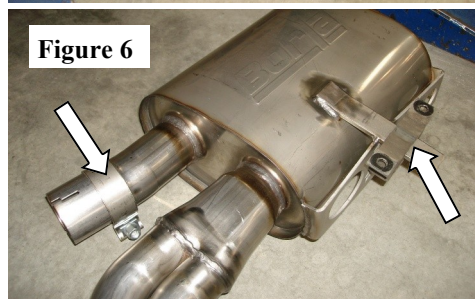

Figure 6
2. Starting with RH Muffler Assembly, slide OE muffler hangers on to the muffler brackets. Place a clamp over expanded end of pipe. (See Fig.6)